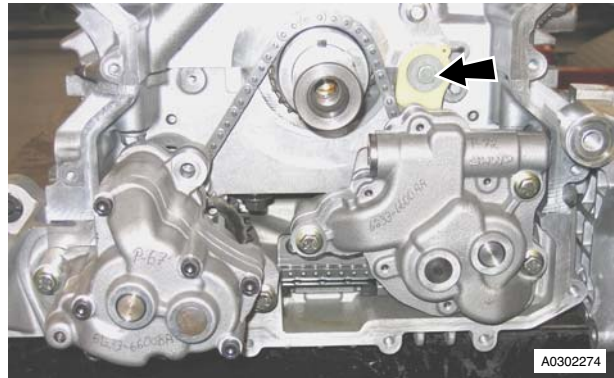

Figure 2
5. Remove tensioner assembly (see Figure 2).